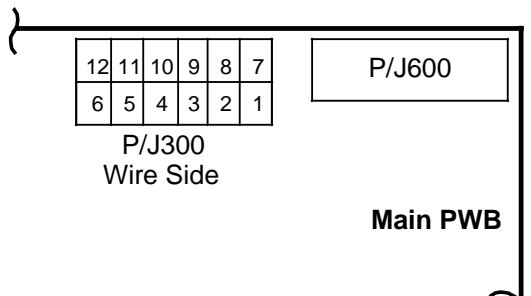

Figure 1. P/J300
- e. Measure the voltage from pin 5 to pin 9 on the main PWB P/J300 (Figure 1).